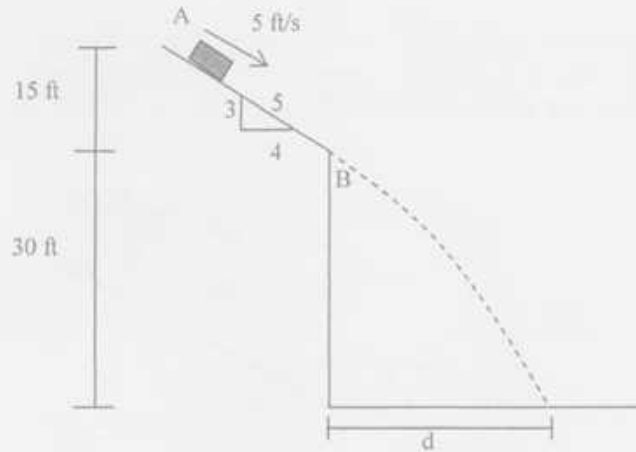

Figure 6
6. The 10-lb brick slides down a smooth roof, such that when it is at A it has a velocity of 5 ft/s as shown in Figure 6. Determine the speed of the brick just before it leaves the surface at B, the distance d from the wall to where it strikes the ground, and the speed at which it hits the ground.